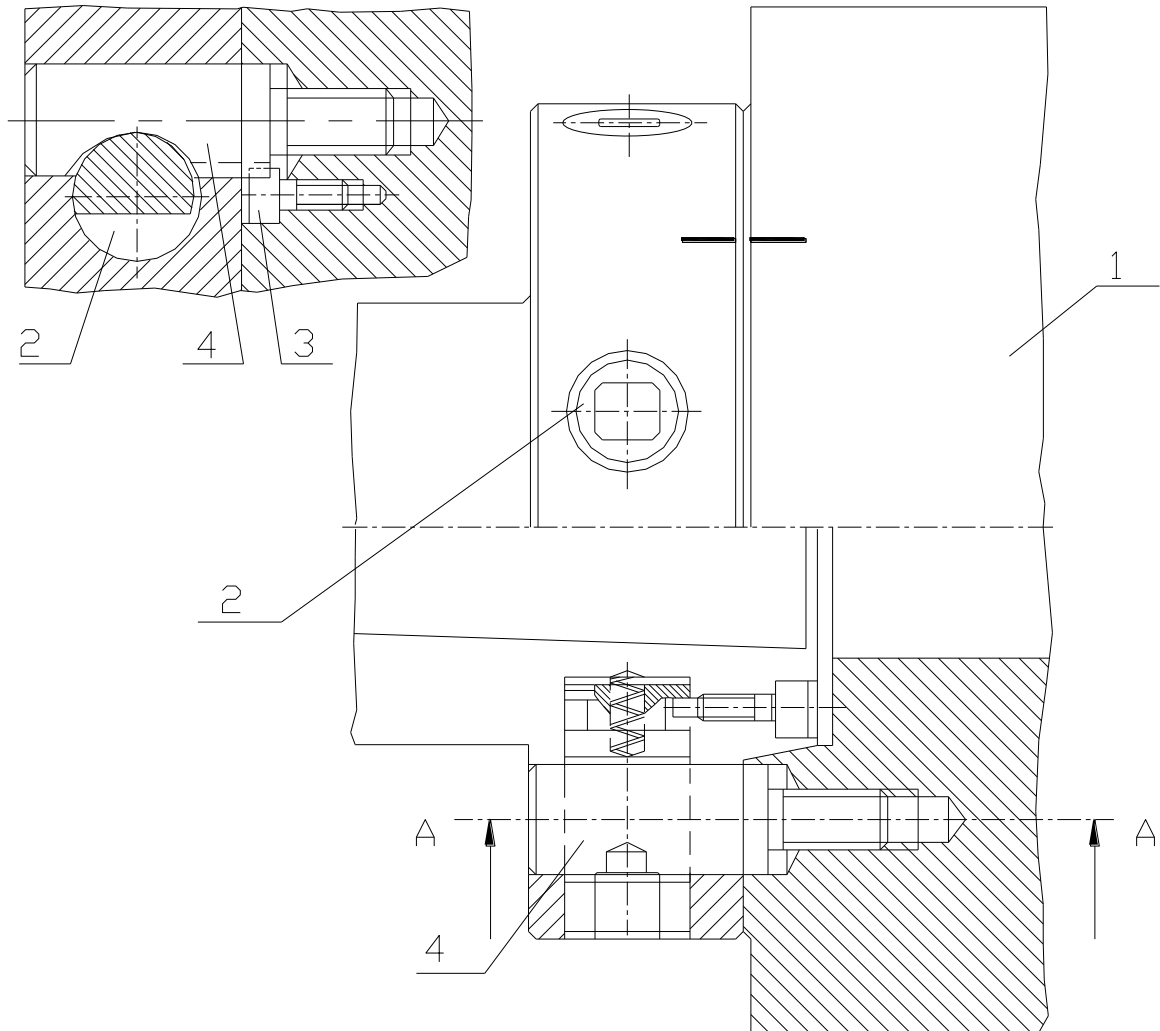

Fig. 4-14
4.7.2 MOUNTING A CHUCKING DEVICE ON SPINDLE NOSE (USAS B-5.9-D1/ISO702-II) (CAMLOCK), FIG. 4-14